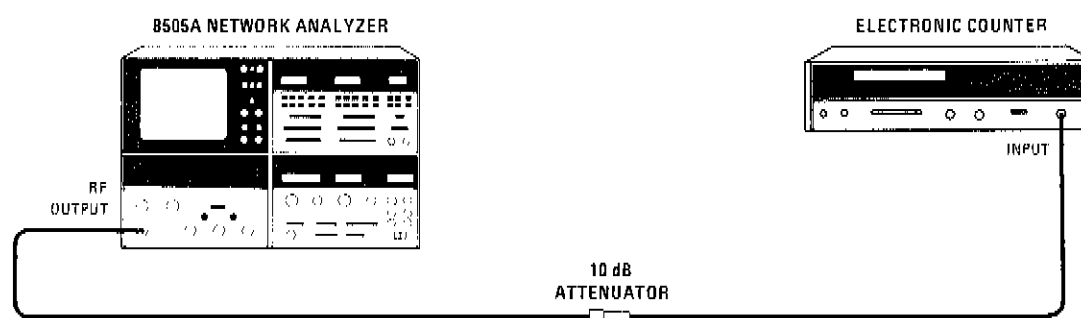

Figure A4-3. Frequency Stability Test Setup
- b. Connect equipment as shown in Figure A4-3.